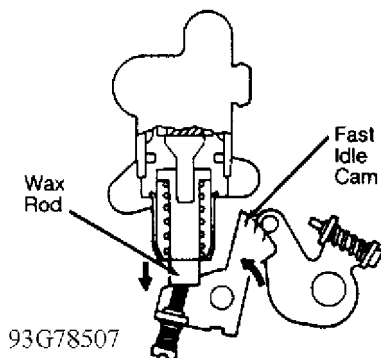

Fig. 6: Checking Fast Idle Cam Separation (RX7)
1) With engine cold, ensure roller near screw "B" is centered on fast idle cam. See Fig. 6. Warm engine to operating temperature. At 130-149°F (55-65°C), wax rod should extend fully and fast idle cam should separate from roller. If wax rod does not operate as described, replace wax rod or adjust separation point.